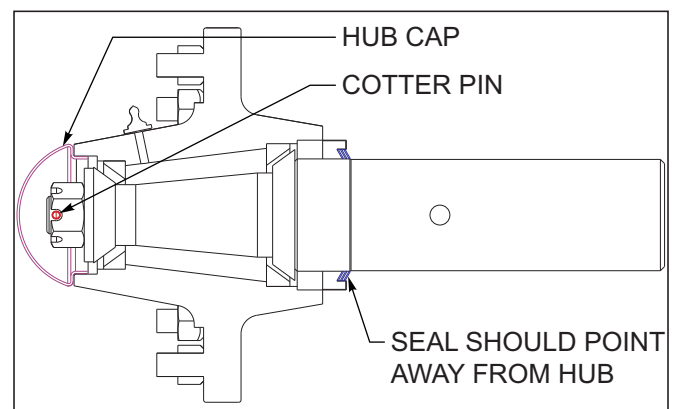

Figure 4-13: Triple Lip Seal
The triple-lip seals should point away from the hub to keep contaminants out and allow grease to pass *See Figure 4-13.*
11. Install a new cotter pin and replace the hub cap. *See Figure 4-13.*